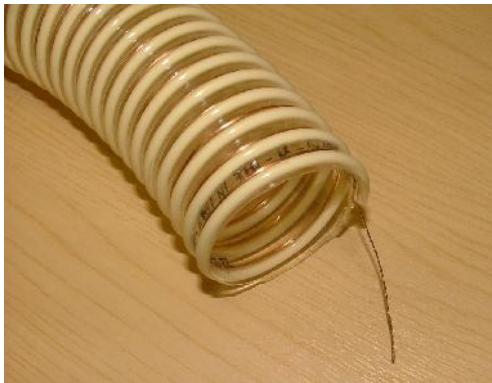

Figure 4-9. Anti-static wire exposed
2. At each end of the tube, cut back to expose approximately 40-50mm of the copper anti-static wire. Refer to Figure 4-9.